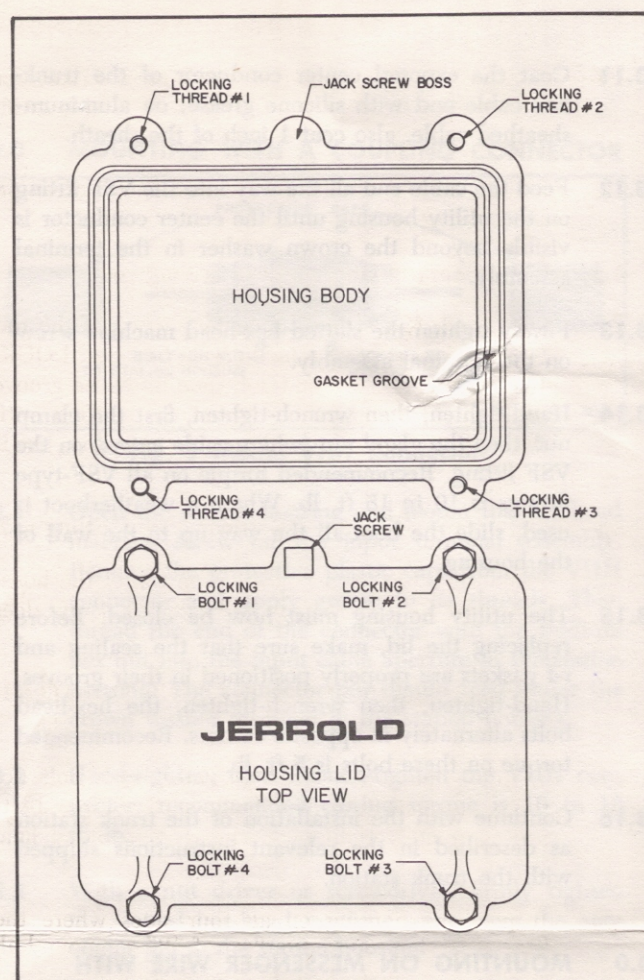

Fig. 3 Cast-Iron Utility Housing
- 6.4 Start by first inserting the center section of the rod into the gasket groove in the area between LOCKING THREADS #3 and #4, then fill in the groove on both sides and on the top of the housing until the two ends of the rod meet below the JACK SCREW BOSS (see Fig. 3).